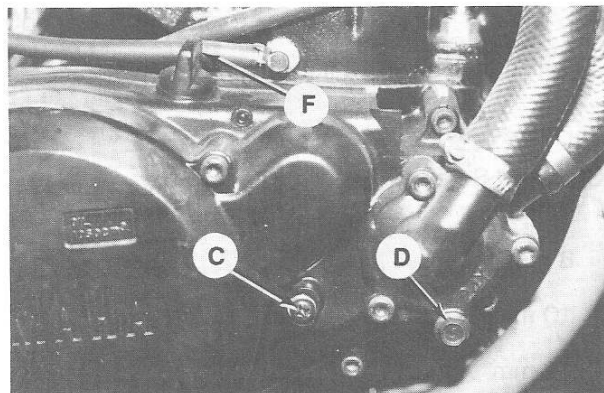
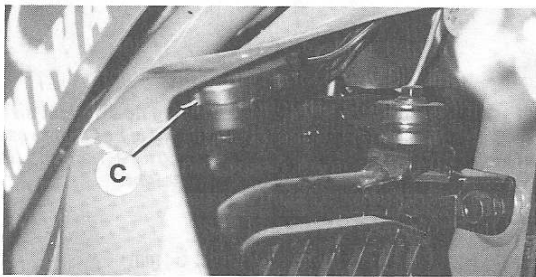
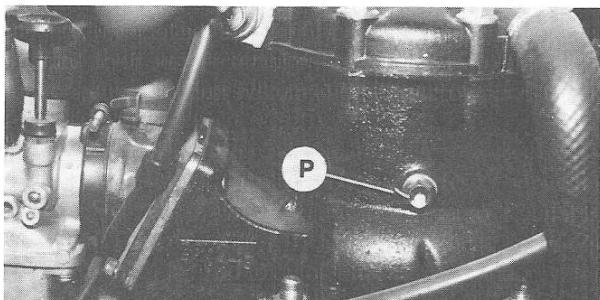

Fig. Y10-1—Fill sump through filler cap (F) opening and maintain lubricant at level of check plug (C). Loosen plug (D) to drain cooling system.
Fig. Y10-10—View identifies radiator cap (C).
Fig. Y10-11—Remove plug (P) on right side of engine cylinder to completely drain cylinder water jacket.
The transmission sump is filled through filler cap (F—Fig. Y10-1) opening. Oil level should be maintained at bottom of oil check plug (C) opening. Sump is drained by removing plug in underside of sump. Dry capacity of crankcase is 1.05 L (1.10 qt.) after an engine or transmission overhaul. Refilling after changing oil requires only 1.0 L (1.05 qt.) as approximately 0.05 L (0.05 qt.) of oil will be retained by crankcase castings. Tighten transmission sump drain plug to 20 N·m (15 ft.-lbs.).
To drain coolant, remove radiator cap (C—Fig. Y10-10) and loosen drain plug (D—Fig. Y10-1) in water pump housing and allow coolant to drain into a suitable container. Plug (P—Fig. Y10-11) located on right side of engine cylinder is used to completely drain cylinder water jacket.
Before refilling cooling system, install and tighten drain plugs. Pour recommended coolant mixture into radiator cap (C—Fig. Y10-10) opening.
RADIATOR CAP. Radiator cap (C—Fig. Y10-10) should have a relief opening pressure of 93-123 kPa (13.5-17.8 psi).